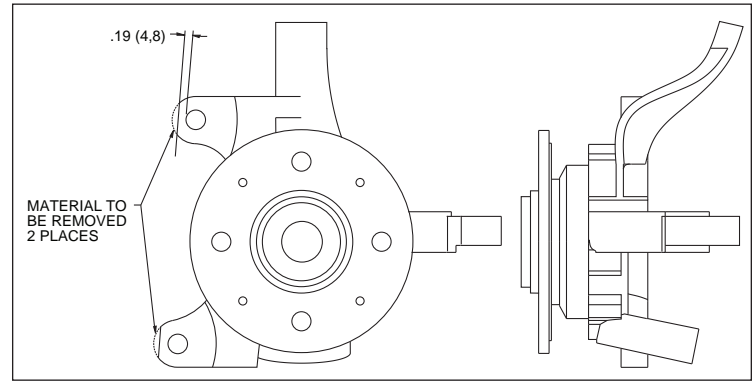

Figure 1. Spindle Modifications
- These modifications should be performed by a qualified machinist. Refer to Figure 1, right. Only one view of the spindle is shown, but the modifications need to be performed on both spindles.